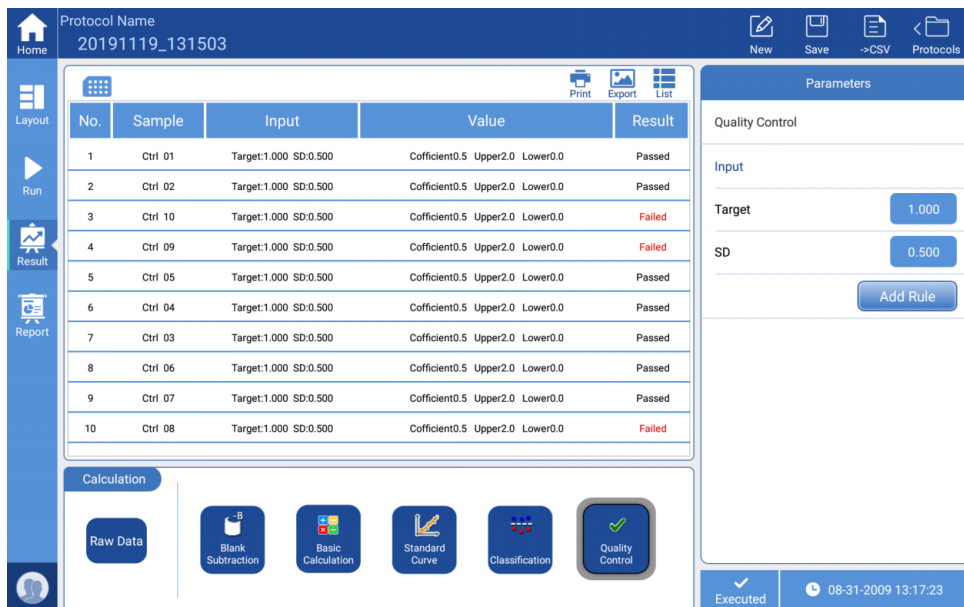

Fig 16
- Quality Control: Click “Quality Control” button, (see Fig 16), the main display area will turn out to be a list, it displays status of the quality control wells which have set previously, the instrument will mark the samples according to conditions set in “Parameters “Parameters”.